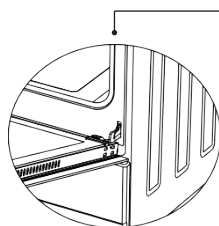

Figure 1.1
2. Carefully look at the door's hinges to identify the small hooks. These small hooks are the locking tabs for the door hinges (Figure 1.1)